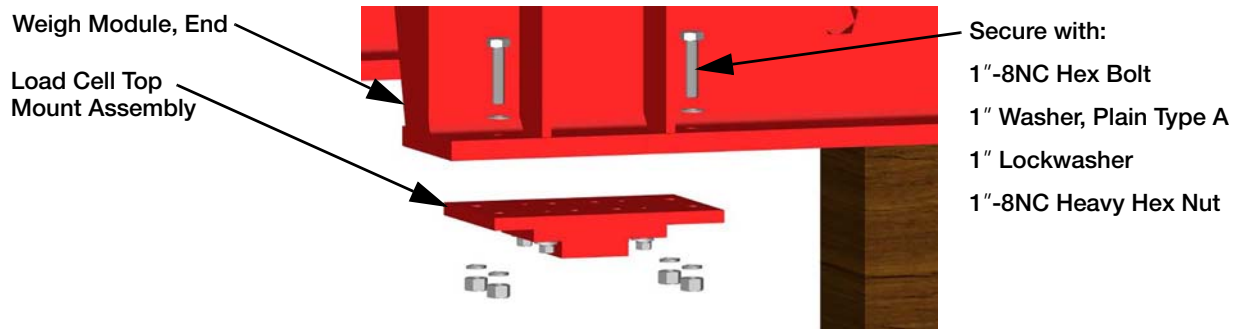

Figure 2-8. Module in Place
6. Assemble the upper load cell mounts to the modules, see Figure 2-8.